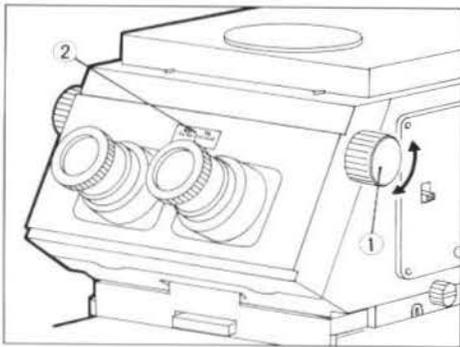

Fig. 27
Turn either the right or left interpupillary distance adjustment knob ① until perfect binocular vision is obtained. (Fig. 27)
★ It is suggested to memorize your individual interpupillary distance and make the distance adjustment by reading the scale ② located between the eyepiece tubes. (Fig. 27)